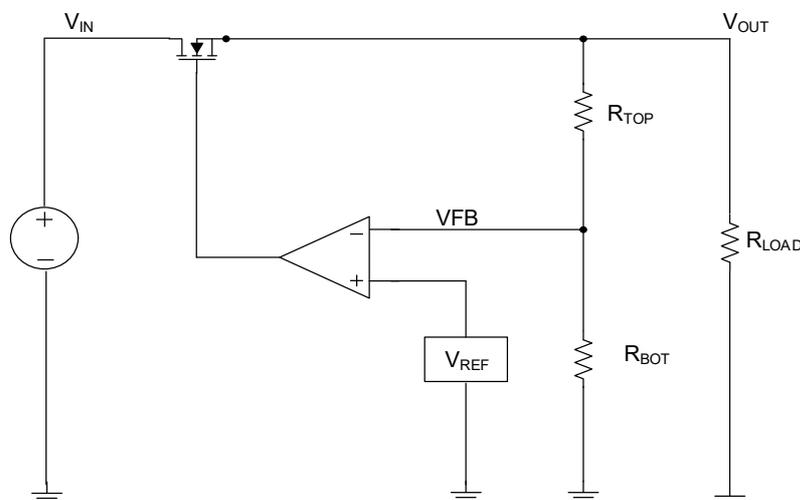

Figure 42. Simple NMOS LDO Regulator Block Diagram
Like the majority of LDOs with an NMOS pass transistor, the RRP51035 output voltage (V_{OUT}) regulation can be modeled with a voltage reference (V_{REF}), feedback (FB) resistors, error amplifier, and NMOS pass-transistor as shown in Figure 42.